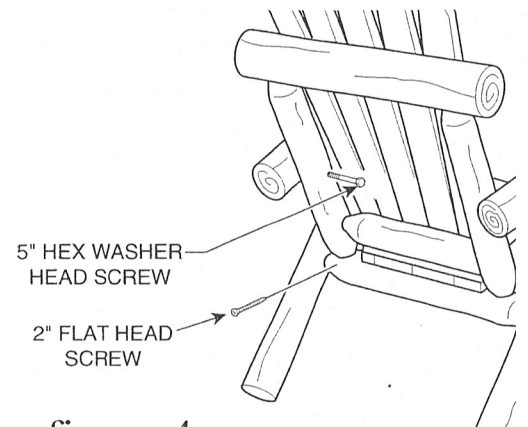
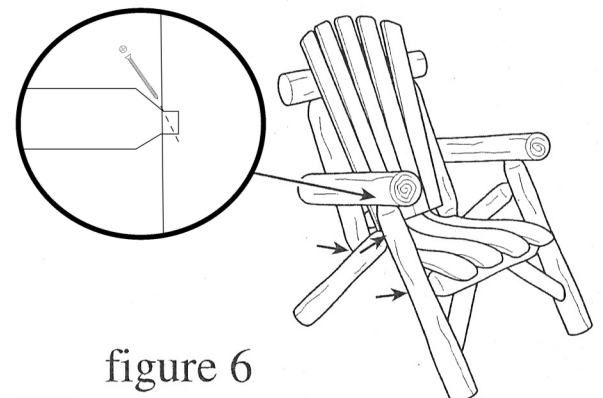

figure 4
figure 6
Secure doweled joints in place with screws perpendicular to the doweled ends as shown in figure 4 and circled example in figure 6. Repeat procedure for other side.
STEP 6 Set unit on a level surface and tighten down all lag screws firmly to secure unit. Secure all dowel joints in place with screws perpendicular to the doweled end as shown in figure 6.